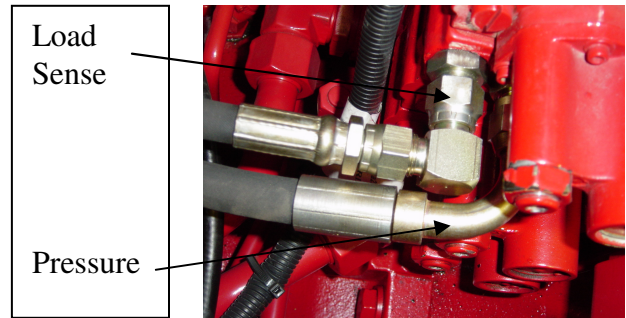

Fig 1-1
2. First locate the remotes kit to verify tractor. **See in Fig. 1-1 and Fig 1-2.**
10. Route the 57” and 60” hoses (Part #16 & 17) underneath the tractor cab and attach to the proper ports on the manifold block already installed on the back of the tractor. See instruction sheet for proper connections. **See in Fig. 1-1 and Fig 1-2.**